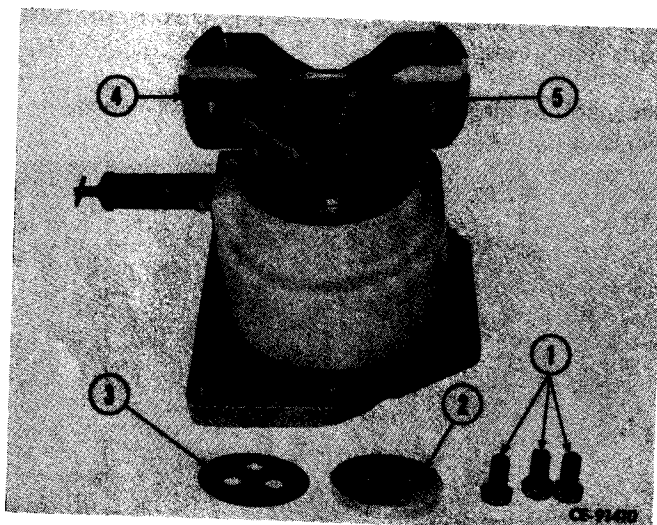
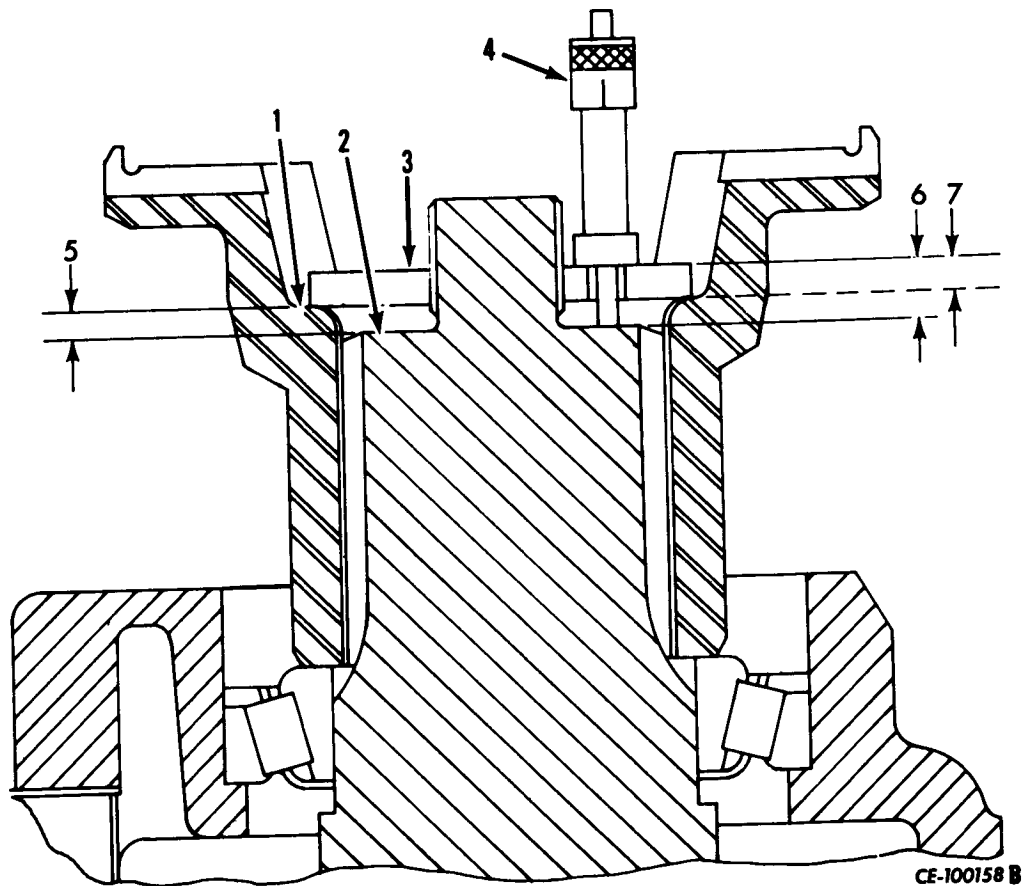

Figure 5-20
Figure 5-32
Remove lock wire from cap screws. Remove cap screws (1, Fig. 5-20), retainer (2), and seal washer (3), where used, that secure output yoke (4) to shaft (5). Remove yoke.
Measure distance from large diameter face of shaft (2, Fig. 5-32) to retainer contact surface (1) on yoke. This is Dimension 5.
NOTE: This measurement may be made by drilling a hole in the yoke retainer (2, Fig. 5-20) large enough to accept the shaft of a micrometer (4, Fig. 5-32). Position retainer (3) on yoke and measure distance from top of retainer to face on shaft (Dimension 6). "Mike" the thickness of the retainer (Dimension 7) and subtract this from Dimension 6. The remainder is Dimension 5.